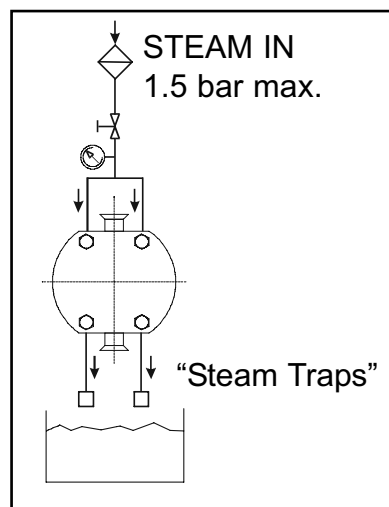

Figure 6: Steam Barrier Flush System For Double Mechanical Seal
- See figure 6 for suggested steam connection.
Steam Barriers: The pressure of steam should be as low as possible consistent with the desired temperature. Steam should be connected in at the highest point on the end cover and out at the lowest point to allow any condensate to drain from the lowest point. (see figure 6).